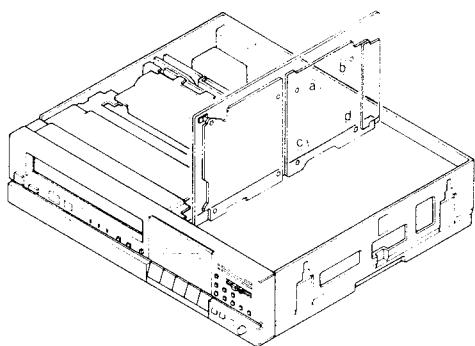

Fig. 2-7
- 2) Unlock the four PCB supports (Ⓐ, Ⓑ, Ⓒ and Ⓓ) retaining the PCB LP-SS as shown in Fig. 2-7.